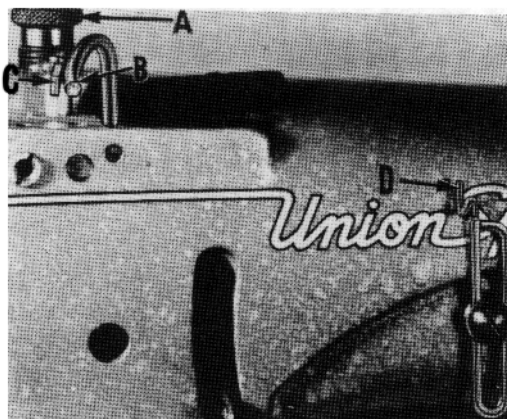

Fig. 14
Regulate the presser spring regulating screw (A, Fig. 14) so that it exerts only enough pressure on the presser foot to feed the work uniformly. This is located directly behind the needle bar in the head of the machine. Also, regulate the pressure on the upper roller feed, using only enough pressure to insure the uniform feeding of the material being sewn.
Set the needle thread take-up (B, Fig. 14), located adjacent to the needle bar thread eyelet (C), so that its upper surface projects $\frac{3}{32}$ inch above the line of thread when the needle bar has completed its downward stroke. Set the needle thread frame eyelet (D) so the smallest noticeable amount of thread is drawn through the needle thread tension while the needle is descending. (Setting this eyelet too high can cause the needle thread around the looper to be pulled from under the front retainer prematurely).